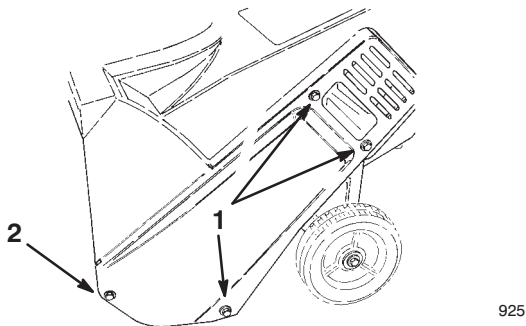

Figure 9
3. Remove the three self-tapping screws, one capscrew, one washer, and one nut that secure the left side cover to the snowthrower frame (Fig. 9).